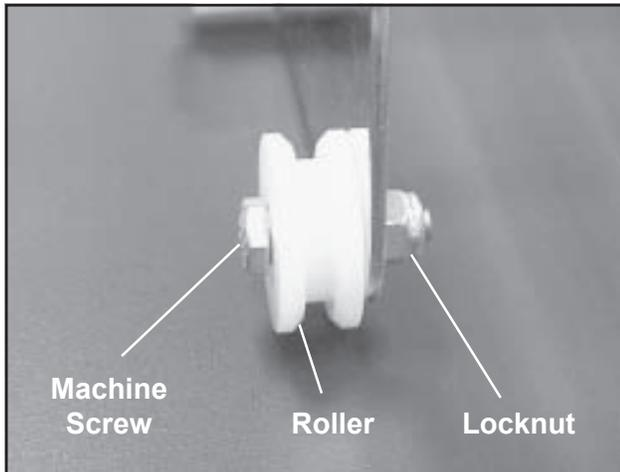

Figure 35. Roller Machine Screw and Locknut
3. Locate the roller you wish to replace. With two 7/16 in. wrenches, remove the machine screw and locknut that hold the roller in place, and remove the roller from the shelf or track, as appropriate (Figure 35).